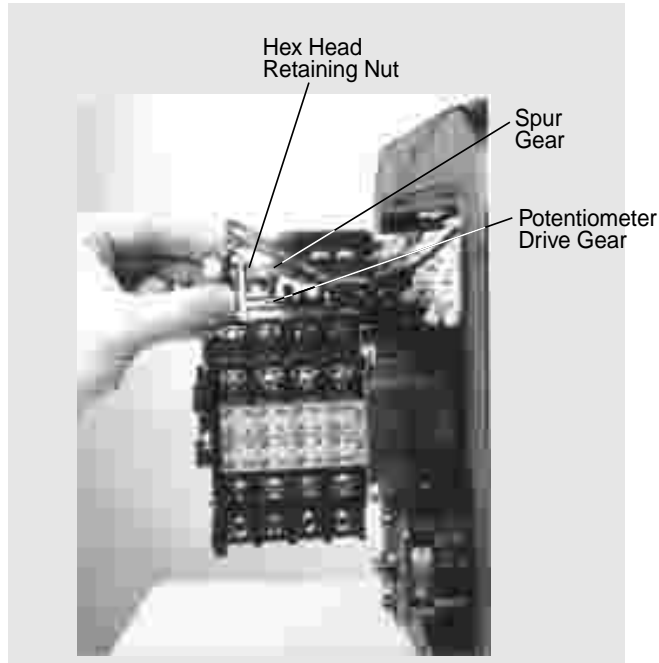

Figure 18 - Loosening Potentiometer Assembly
4. Open the Electrical Compartment Cover #200-1. Loosen the Hex Head Retaining Nut at the base of the Potentiometer Bracket and dis-engage the Spur Gear from the Potentiometer Drive Gear . This will allow manual rotation of the Potentiometer Assembly . See figure 18 on page 24.